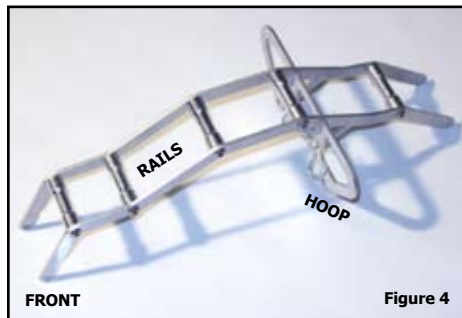

Figure 4
3. Assemble the cage as shown in *Figure 4*. Secure both *rails* to the *hoop* with *hairpin cotter pins*. Fit (5) of the *spacers* to the cage with *M3x8 BHCS* as shown, leaving